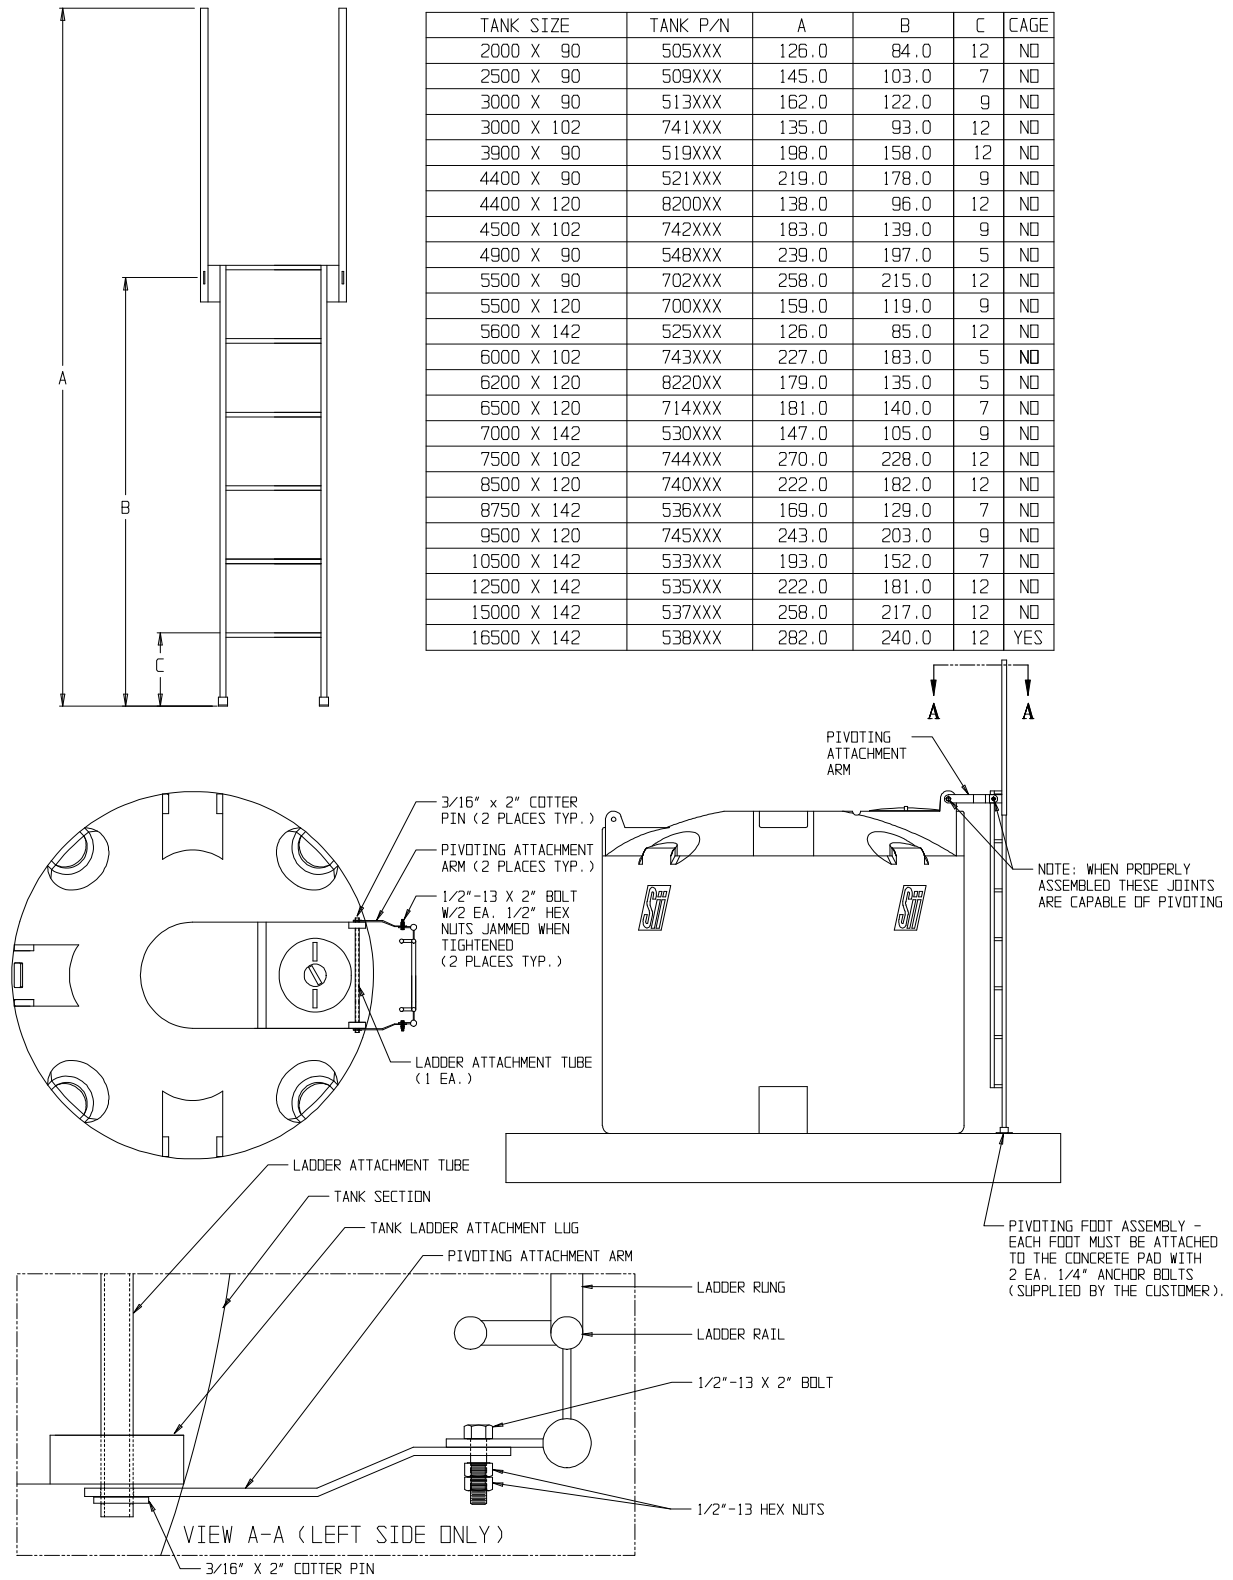

Figure 8.4
8.4.1 Steel ladders are designed in accordance with OSHA 1910.27 and are to be mounted next to the tank on a concrete pad at the same elevation as the bottom of the tank. The concrete pad area that the ladder mounts to must be of sufficient size as to comply with OSHA standards regarding proper access to and from the ladder. This should be determined by the construction site engineer based on the specific application. The pad must be of sufficient size to allow proper attachment of 1/4" anchor bolts (check with anchor bolt manufacturer for embedment and edge distance required). The ladder mounting system is designed to allow for tank expansion and contraction due to temperature and loading changes. Using the assembly drawing and table shown in Figure 8.4, verify that all parts are present and assemble accordingly.
8.4.2 Attach the two pivoting attachment arms to the ladder using 1 ea. 1/2"-13 x 2" hex head bolt and 2 ea. 1/2" - 13 hex nuts. Double nut each bolt by tightening the first nut to 85 ft. - lbs. of torque and then jamming the second nut to the first nut by holding the first nut and tightening the second to 85 ft. - lbs. of torque. Position the ladder on the tank and attach the top pivoting attachment arms to the tank with the ladder attachment tube and cotter pin provided (see Figure 8.4). Position the ladder parallel with the side of the tank and mark the 1/4" anchor bolt locations. Install appropriate 1/4" anchor bolts and attach the bottom of the ladder to the concrete pad. Anchor bolts are not provided by the manufacturer and must be purchased by the customer.